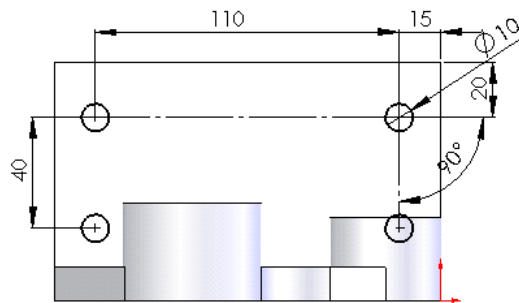

Figure 5-86 Holes sketched for the cut feature
- Create four holes using the cut feature on the top face of the base feature, refer to Figures 5-86 and 5-87.
The fully defined sketch is shown in Figure 5-86.